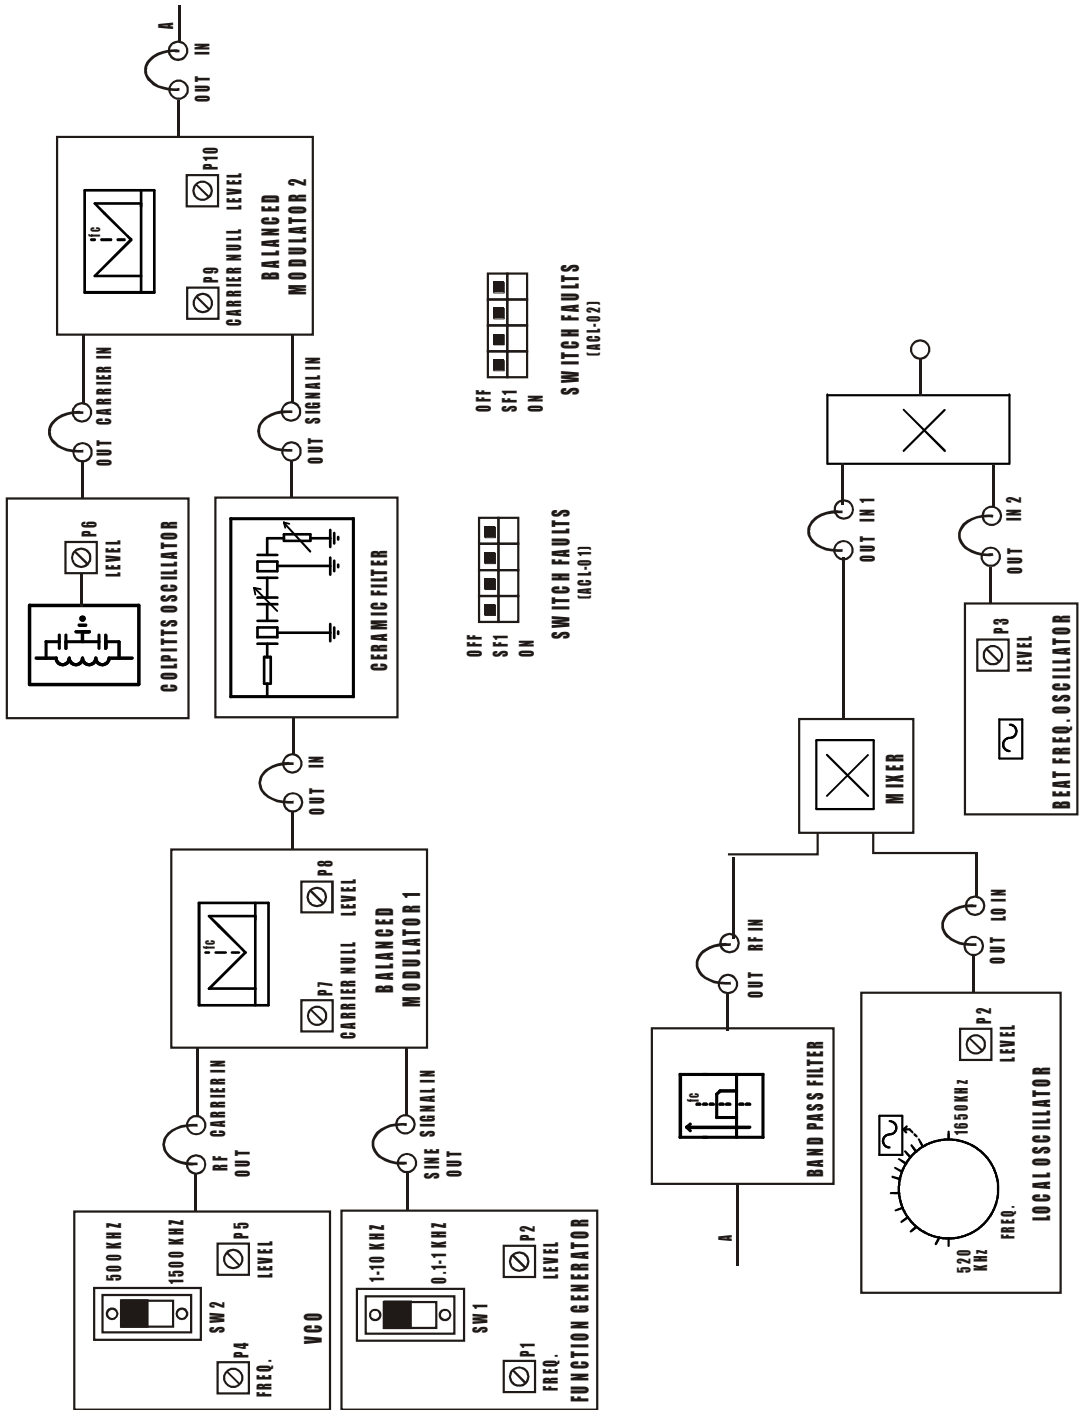

FIG. 5.2 BLOCK DIAGRAM FOR STUDY OF SSB RECEPTION USING PRODUCT DETECTOR VIA CABLE
1. Set the connections for SSB Reception as shown in FIG. 5.2.